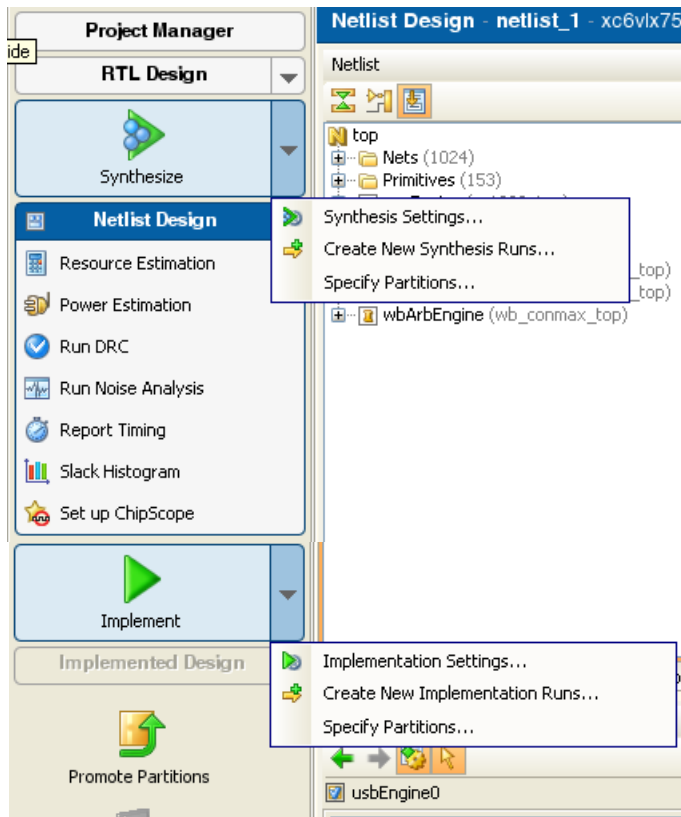

Figure 13-2: Synthesis and Implementation Settings
1. In the Flow Navigator, select the drop-down menu on the right side of the **Synthesize** or **Implement** button, and select **Specify Partitions**, as shown in Figure 13-2.(1)